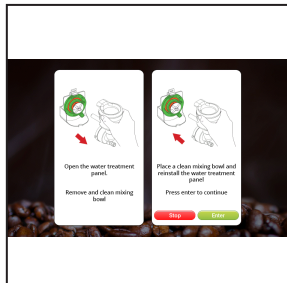

Fig.6
5. The display will show: **Place a clean mixing bowl and reinstall the water treatment panel. Press enter to continue. Press ENTER.**(See Fig.6).